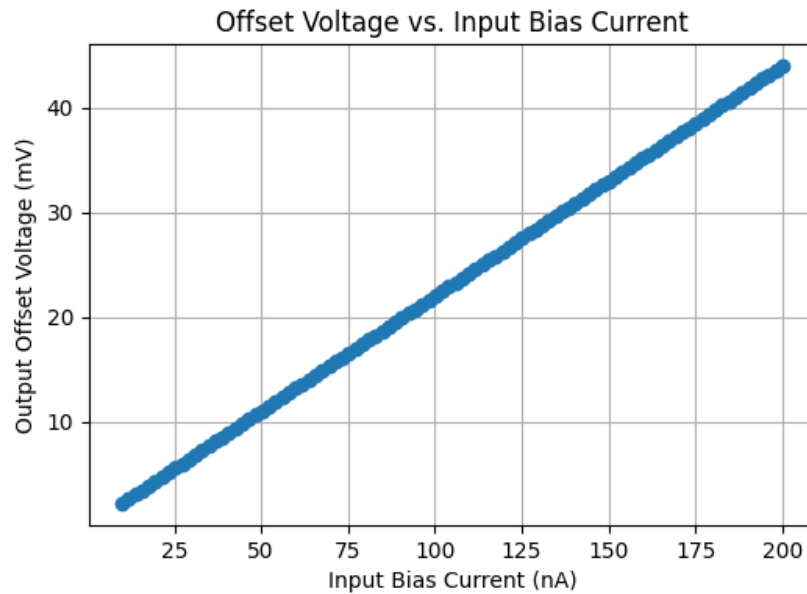

Figure 18: Solution for problem 8. See script `set2_prob8.py` for solution details.
2. Solution plot is shown in Fig. 18.